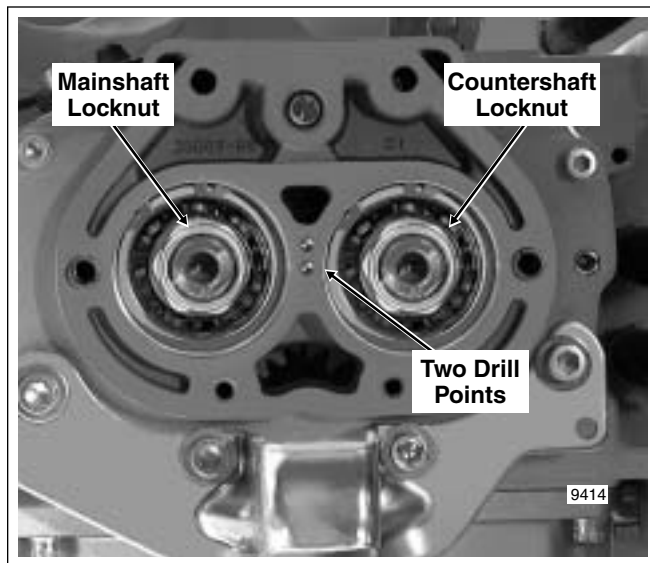

Figure D-7. Install Mainshaft/Countershaft Locknuts
Note the two drill points between the bearing bores on the side door. See Figure D-7. Two drill points indicate that the side door must be fitted with the new style 12mm wide bearings. Installation of the old style 14mm wide bearings would cover the retaining ring grooves.
24. Install spacer and locknut on the threaded end of each shaft and tighten the nuts until finger tight. See Figure D-7.